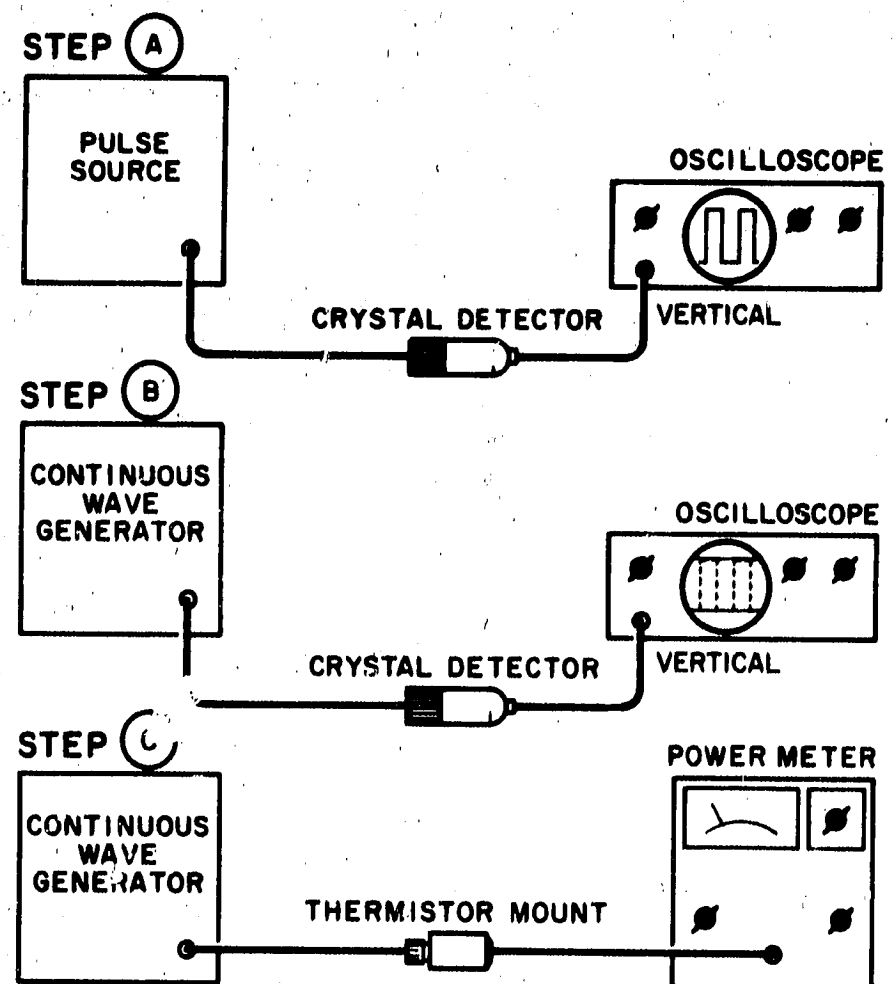

Figure 1. Peak Power Measurement
25. The power applied to the detector can be either modulated or continuous wave (CW). If modulated at a 1000 Hz rate, an SWR meter can be used as an indicator. For CW detection, a dc milliammeter or millivoltmeter can be used as the indicator.
27. Peak Power Measurement. The arrangement of equipment for peak power measurement is shown in Figure 1. The procedure involves calibration of an oscilloscope which, in turn, is used to calibrate a CW generator. The output of the calibrated CW generator is measured with a power meter; the peak power of a pulse is thereby measured. The procedure is as follows:
a. Connect equipment as shown in Figure 1, step a. Observe pulse on a dc-coupled oscilloscope. Using a marking pencil, mark on the graticule the base-to-peak amplitude of the pulse envelope.